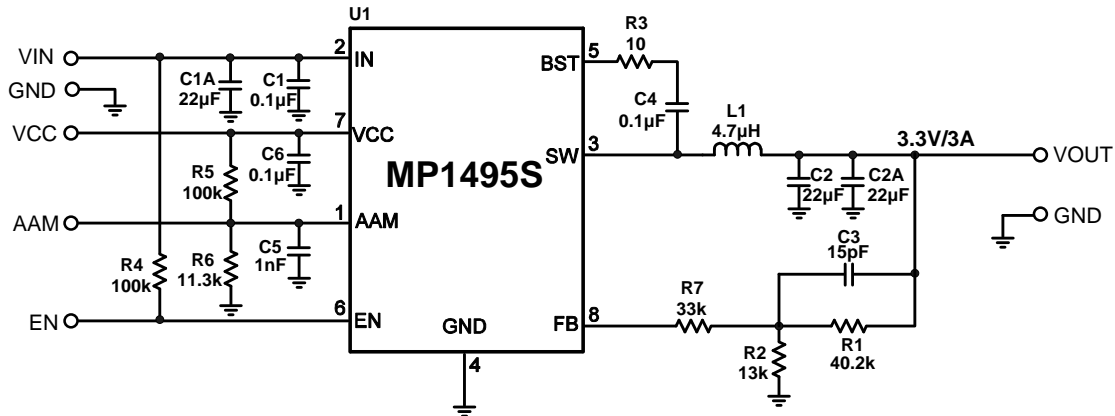

Figure 8: 12V_{IN}, 3.3V/3A Output
- 8) The recommended layout is based on the Figure 8 Typical Application circuit on the next page.
The detailed application schematic is shown in Figure 8. The typical performance and circuit waveforms have been shown in the Typical Performance Characteristics section. For more device applications, please refer to the related Evaluation Board Datasheets.